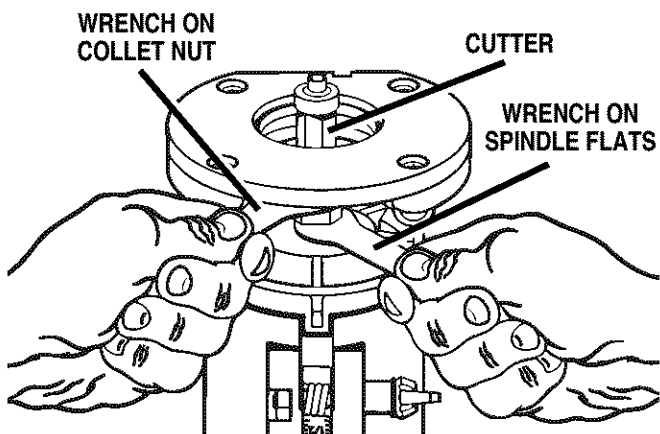

Fig. 2
See Figure 2.
- Place the larger end of the other wrench provided onto the collet nut. Rotate wrench counterclockwise to loosen collet nut. See Figure 2.
- Tighten the collet nut securely by turning clockwise with the wrench provided. See Figure 2.